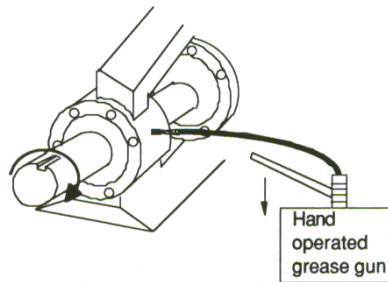

Figure 11. Re-lubricating bearing
3. Remove the plug(s) from the bearing housings and temporarily install one (1) Alomite type grease fitting.
4. With a hand operated grease gun (see Figure 11), pump grease into the bearing, via the fitting, while slowly turning the shaft by hand. The old, used grease will be pushed out of the bearing and replaced with fresh new grease. Continue this process until all of the old grease is expelled. Larger pumps have two (2) tapped holes in the inner bearing cap. By utilizing the first one, then the other, for replenishing the grease, the process is faster and assures a more uniform distribution of the grease.
B.9. If the bearings are not damaged and are to be installed immediately, see Section 23 to re-lubricate the bearings using a hand operated gun. After they have cooled, pump grease completely covering both sides of the bearings while slowly turning the shaft by hand (See Figure 11: Filling Bearing Cavity with Grease).